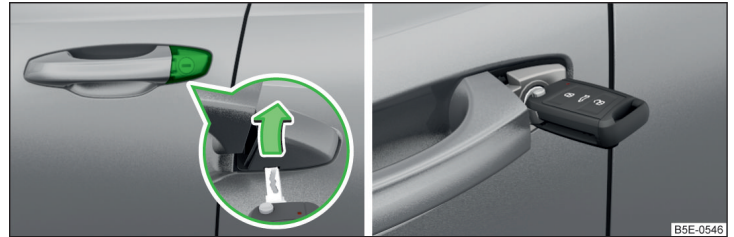

Fig. 213 Handle on the driver's door: covered locking cylinder/locking cylinder with key
- Insert the vehicle key into the slot on the bottom of the cover » Fig. 213.